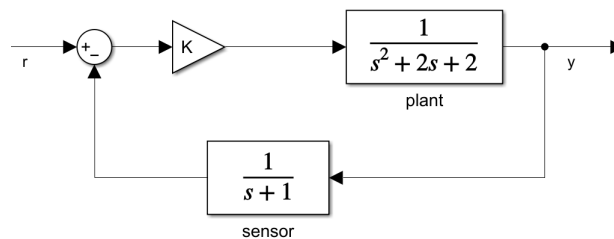

Figure 2: Control system
6. Consider the closed-loop control system shown in Figure 2.